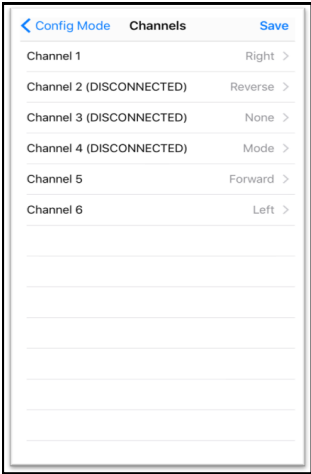

Figure 4
1. Select the *Channels* tab under the *Config Mode* option in the App (Figure 4).